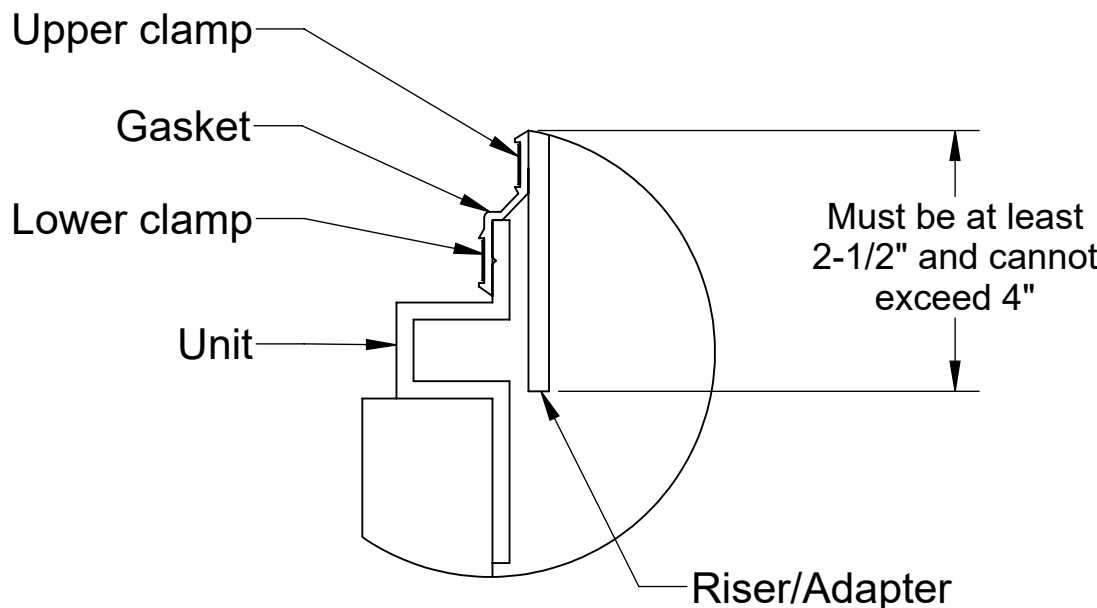

Figure 3
9. Verify that the bottom of the lowest riser is protruding at least 2-1/2" but no more than 4" into the main unit from the top of the gasket. Your mark from step 7 should be at the top edge of the gasket on the main unit. If measurements were made correctly, this should happen automatically. See figure 3.
13. If jobsite riser height conditions change after the above steps have been completed, there may still be room for vertical adjustment in both directions. As long as minimum and maximum overlaps are maintained (see Figure 3), the adapters/risers can be adjusted/cut as many times as necessary. Please follow these steps from the beginning to ensure the proper overlaps are maintained.